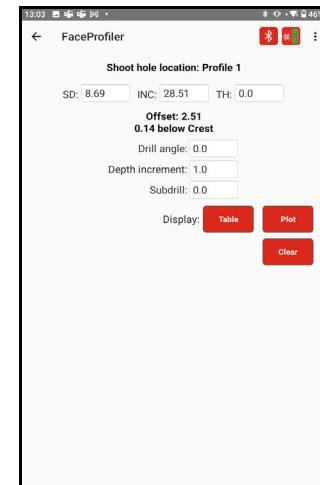

Figure 46
- Tap [Table] to view Depth vs. Burden data in tabular form (Figure 46, Page 40).
About Shoot hole location parameters (Figure 46):